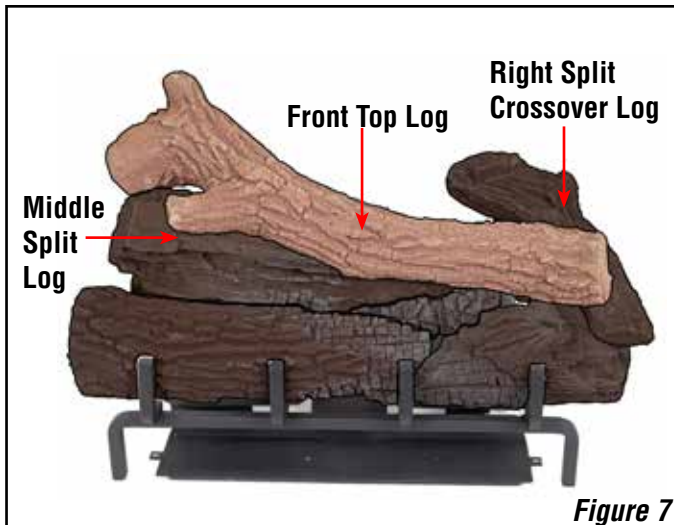

Figure 7
7. The left end of the front top log has a square hole that fits over a square peg that is on the top of the middle split log. The right end of the front top log rests behind the knot on the top of the right split crossover log. See *Figures 7 and 7A* for reference.